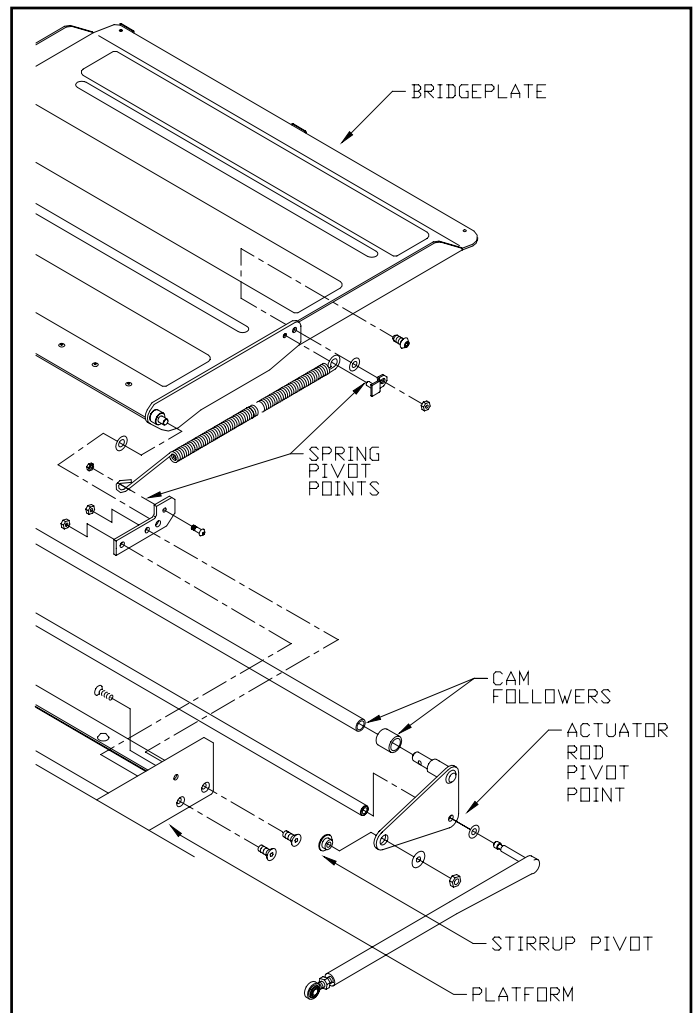

FIGURE 4-10: BRIDGEPLATE LUBRICATION POINTS
- 3) Refer to **Figure 4-10** (DISASSEMBLY IS NOT REQUIRED). Lubricate the spring pivot points, cam followers, and the actuator rod pivot points using a light grease (Curtisol Red Grease No.88167). Wipe clean any excess grease.